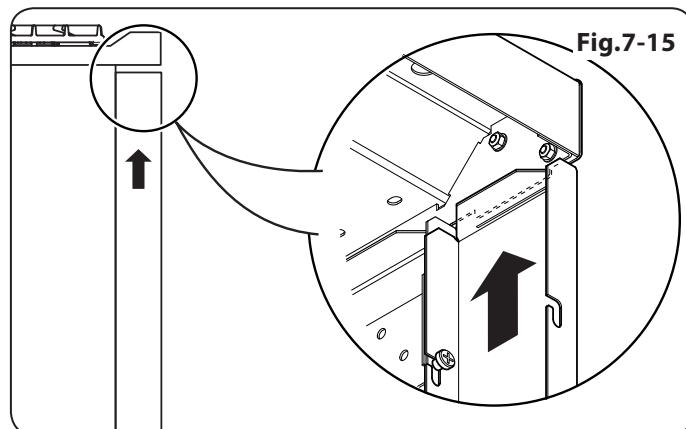

Fig.7-15
3. Push the side extension up to so that the tab in the bottom of the flue extension fits into the slot at the top (Fig.7-15).